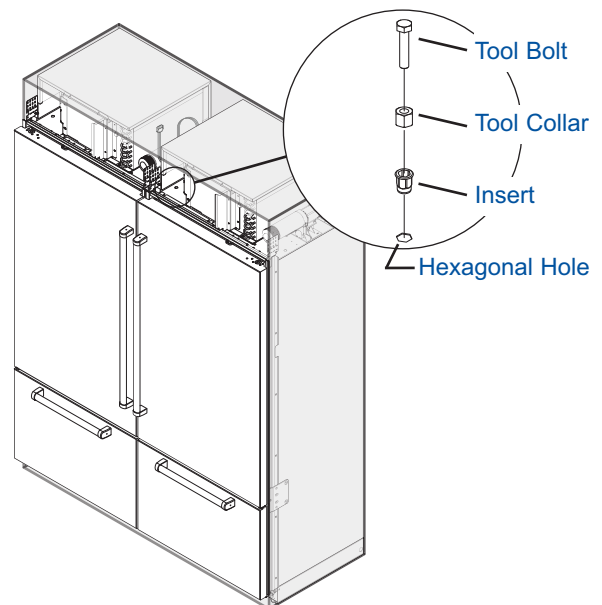

Figure 9. Threaded Insert Installation
2. Screw the Thread Insert Installation Tool into a Threaded Insert, then position the Threaded Insert over one of the hexagonal shaped holes and tap the Threaded Insert into the hole (See Figure 9).